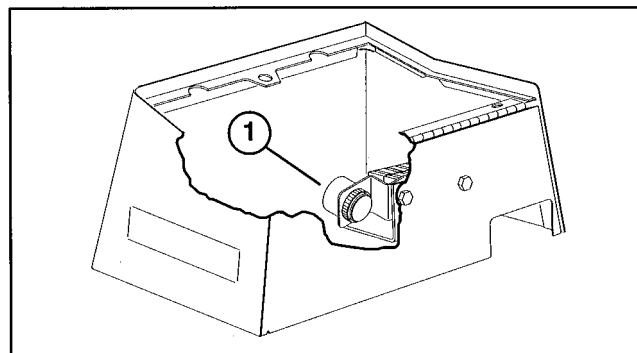

Figure 26
- When machine is started, the alarm (Fig. 26) will give one short beep to indicate that everything is